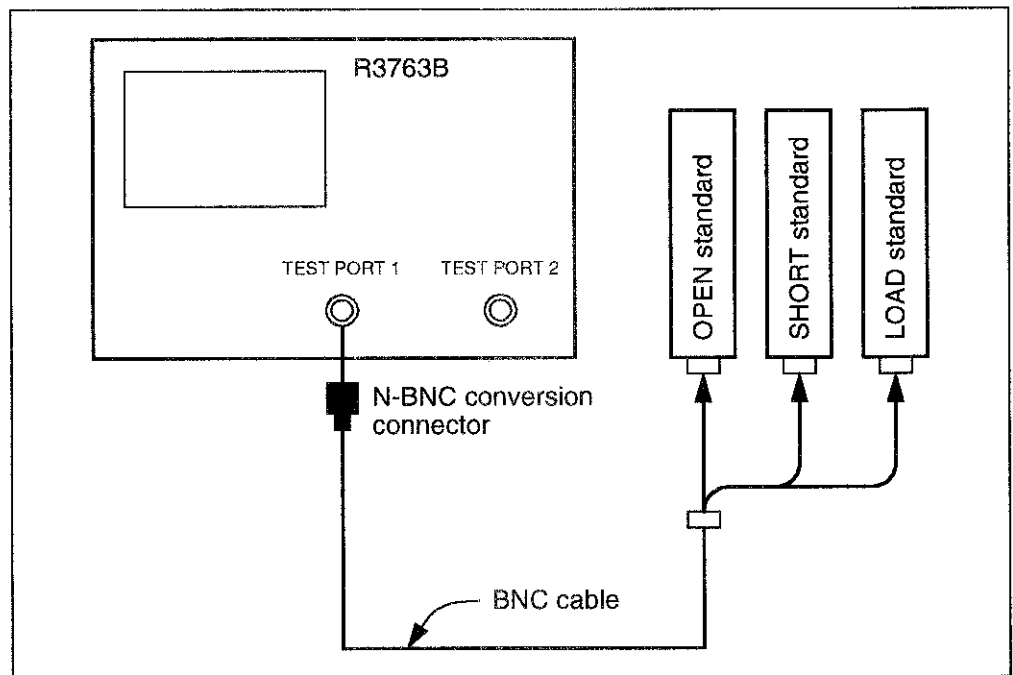

Figure 5-5
- ① In order to measure the input return loss, connect the network analyzer, R3763B as shown in Figure 5-5.